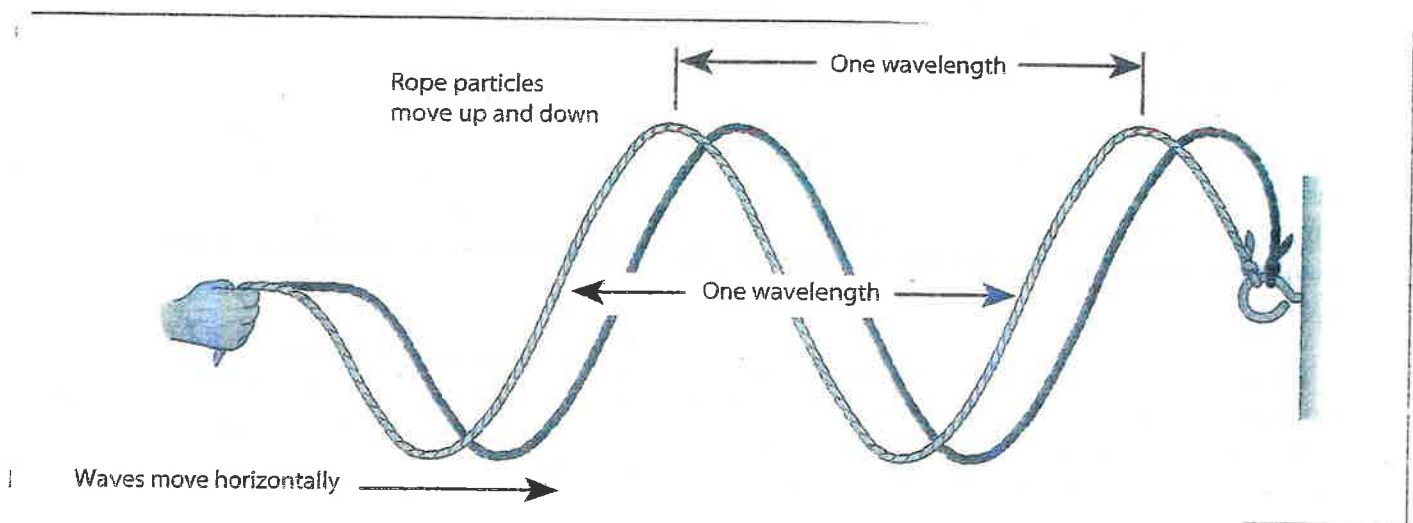

Figure 1: A transverse wave
Solar radiation is part of the broader **electromagnetic spectrum**, a scale of energy types that are given off as transverse waves. The strength and intensity of differing electromagnetic outputs vary due to wavelength and wave-frequency. **Wavelength** is the distance between two successive, identical points on a wave, i.e. one peak to the next. **Wave-frequency** is the rate at which it takes an entire wavelength to pass in one second. Length and frequency are inversely related, meaning as a wave's length gets longer its frequency is less. The greater a wave's frequency and shorter the wavelength, the more energy the wave carries. This is because short-wave radiation travels faster, carrying energy to a destination in less time (See Figure 1). (1)